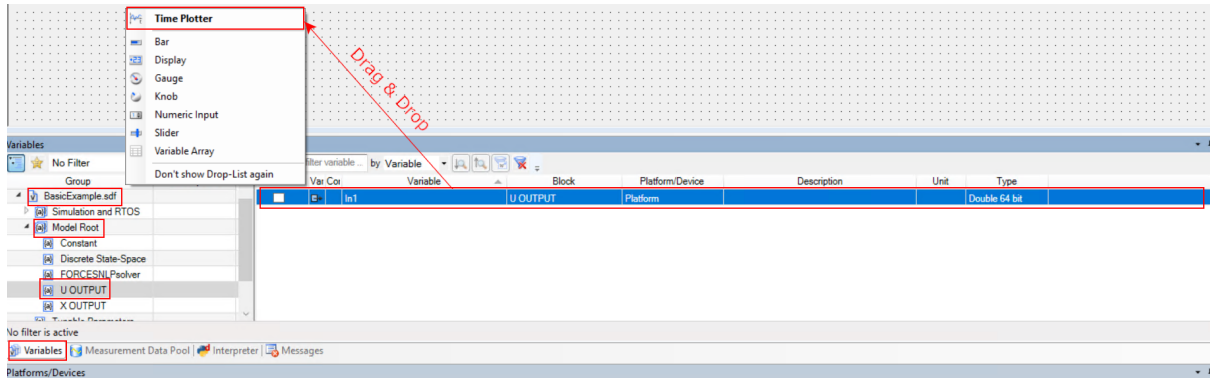
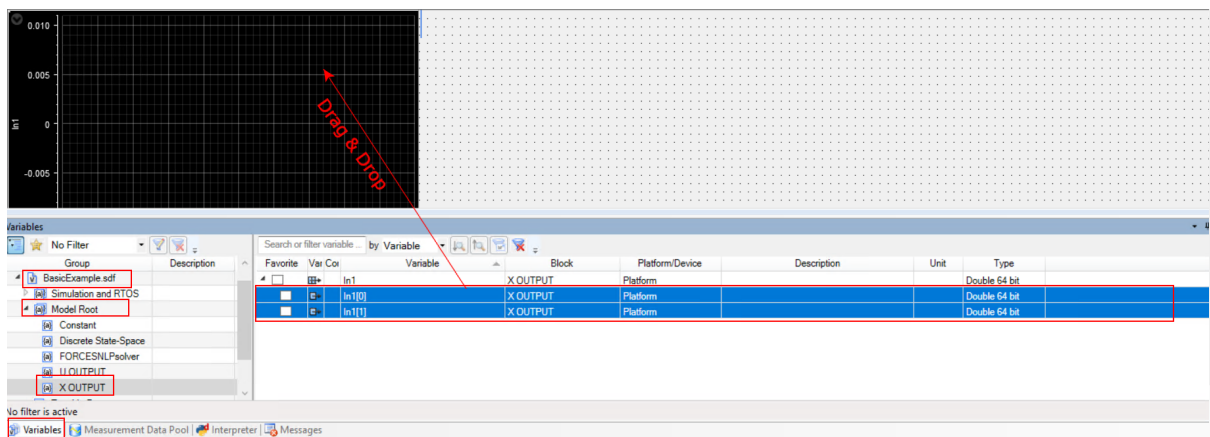

Figure 12.80: Add the inputs of U OUTPUT in a Time Plotter.
Figure 12.81: Add the inputs of X OUTPUT in the same Time Plotter.
- 7) Select `U OUTPUT` and `X OUTPUT` and Drag & Drop all the input variables together to the Layout. In the opened menu select `Time Plotter` (see Figure 12.80 and Figure 12.81).